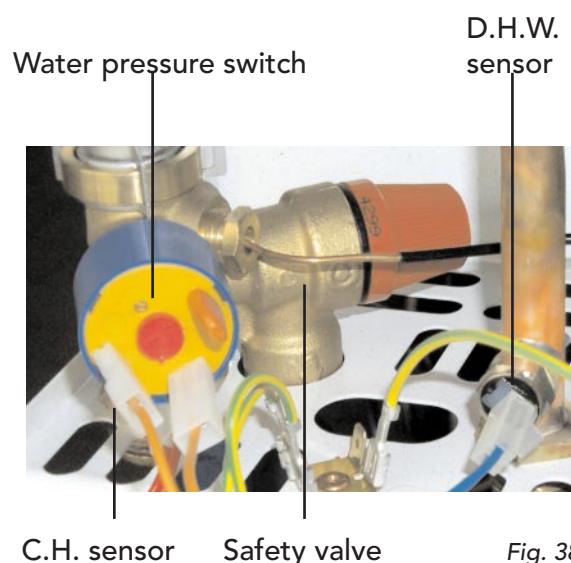

Fig. 38
## 7.07.1 D.H.W. temperature sensor or Central Heating Temperature Sensor (fig. 38)
- Identify the sensor from figure 38
## 7.07.2 Water Pressure Switch (fig. 38)
- Identify the switch from figure 38
## 7.07.3 Safety Valve (fig. 38)
- Identify valve from fig. 38